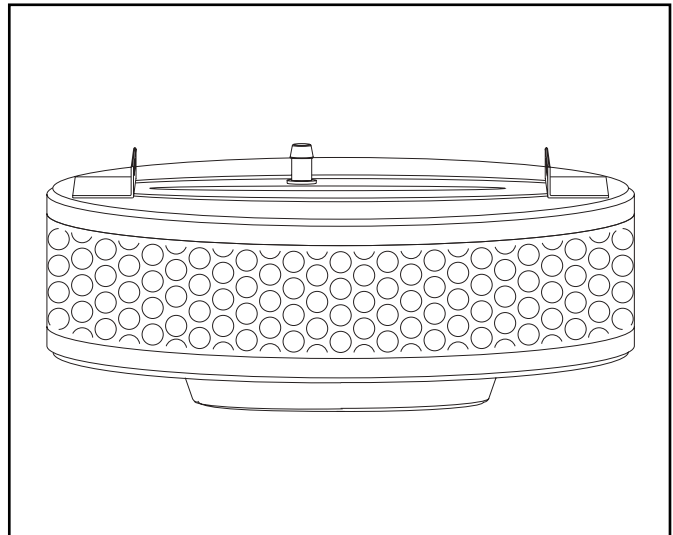

Figure 3-15 - Primary Inlet Fuel Filter (Typical)
**Primary Fuel Filter, In-Tank***Figure 3-15***Important**